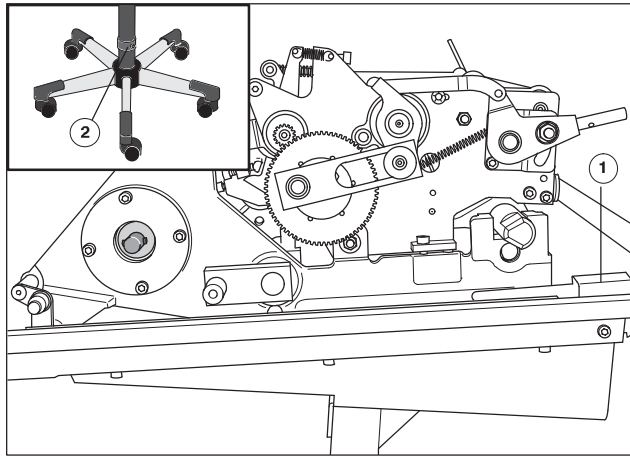

Fig. 51 Slide-in carriage
1. Press the latch at the slide-in carriage (Fig. 51/1) and remove the numbering slide-in unit from the slide-in carriage.
4. Loosen the Allen screw (Fig. 51/2) at the base of the slide-in carriage.
8. Tighten the Allen screw (Fig. 51/2) at the base of the slide-in carriage.
9. Place the numbering slide-in unit on the slide-in carriage and let latch (Fig. 51/1) engage.